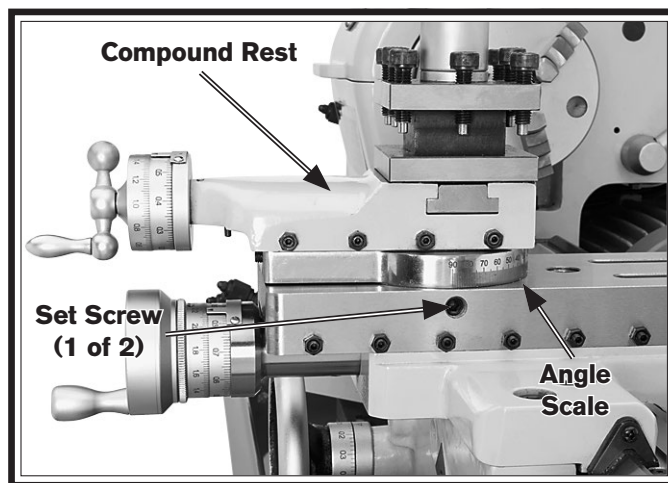

Figure 44. Compound rest locking set screws.
1. Loosen the two set screws in the side of the cross slide (1 of 2 shown in **Figure 44**).